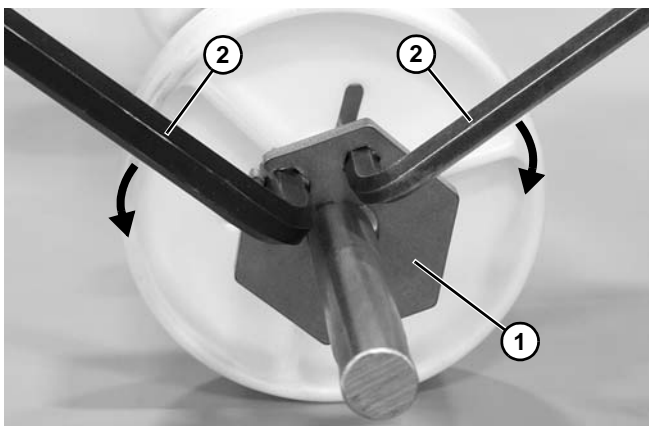

Figure 81
- c. To lock the retainer plate (**Figure 81, item 1**) in place, move the wrenches (**Figure 81, item 2**) away from each other.